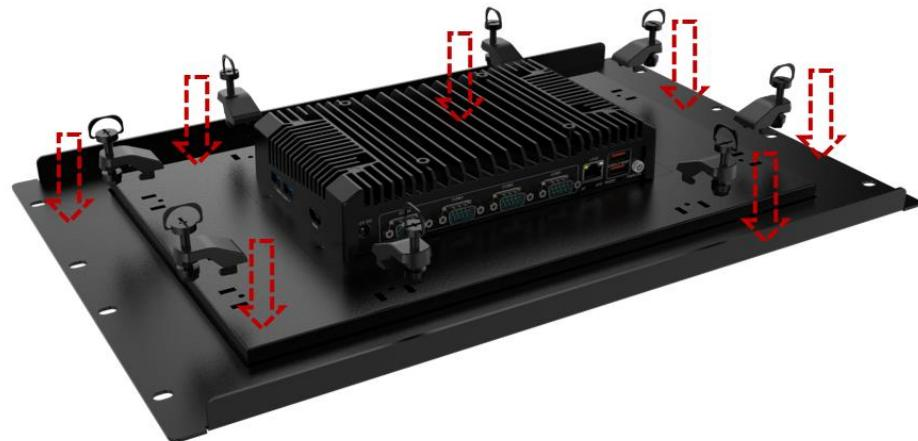

Figure 3-27: Installation Panel Mount Kit
Step 8: Insert the panel mount kit into the prefabricated holes along the rear edge of the PPC2-xxx-ADLP Series (Figure 3-27). The required number of mounting clamps may vary by models.